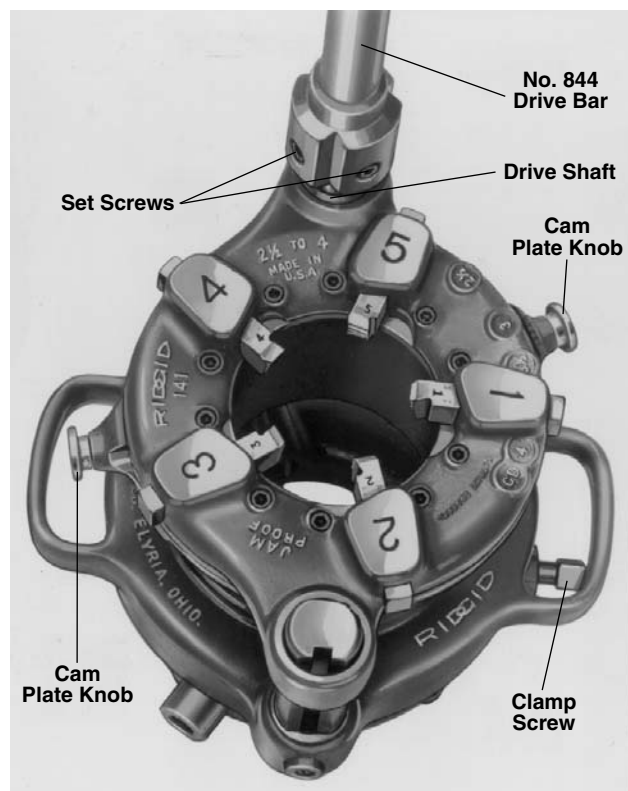

Figure 15 – No. 141 Geared Threader with No. 844 Drive Bar Installed (No. 161 Threader Similar)
2. Pull knobs (*Figure 15*) of cam plate and rotate cam plate to desired pipe size marking on top of die head. Release knobs when locating pins drop into hole in selector plate.
2. Pull Knobs (*Figure 15*) and rotate cam plate to CD mark on top of die head.
3. Remove worn die set (*Figure 15*) and insert new die set.
1. Place threader on floor or workbench with drive shaft up. Install No. 844 Drive Bar on threader drive shaft and tighten two (2) set screws (*Figure 15*).
7. Using socket wrench, tighten workholder clamp screw (Figure 15) securely.
8. Slip square socket of No. 840A Universal Drive Shaft over square end of threader drive shaft and tighten two (2) set screws.
3. Loosen two (2) set screws and remove universal drive shaft from threader.
4. 141 and 161 – Loosen jaw clamp screw (Figure 15) and turn workholder to OPEN position.